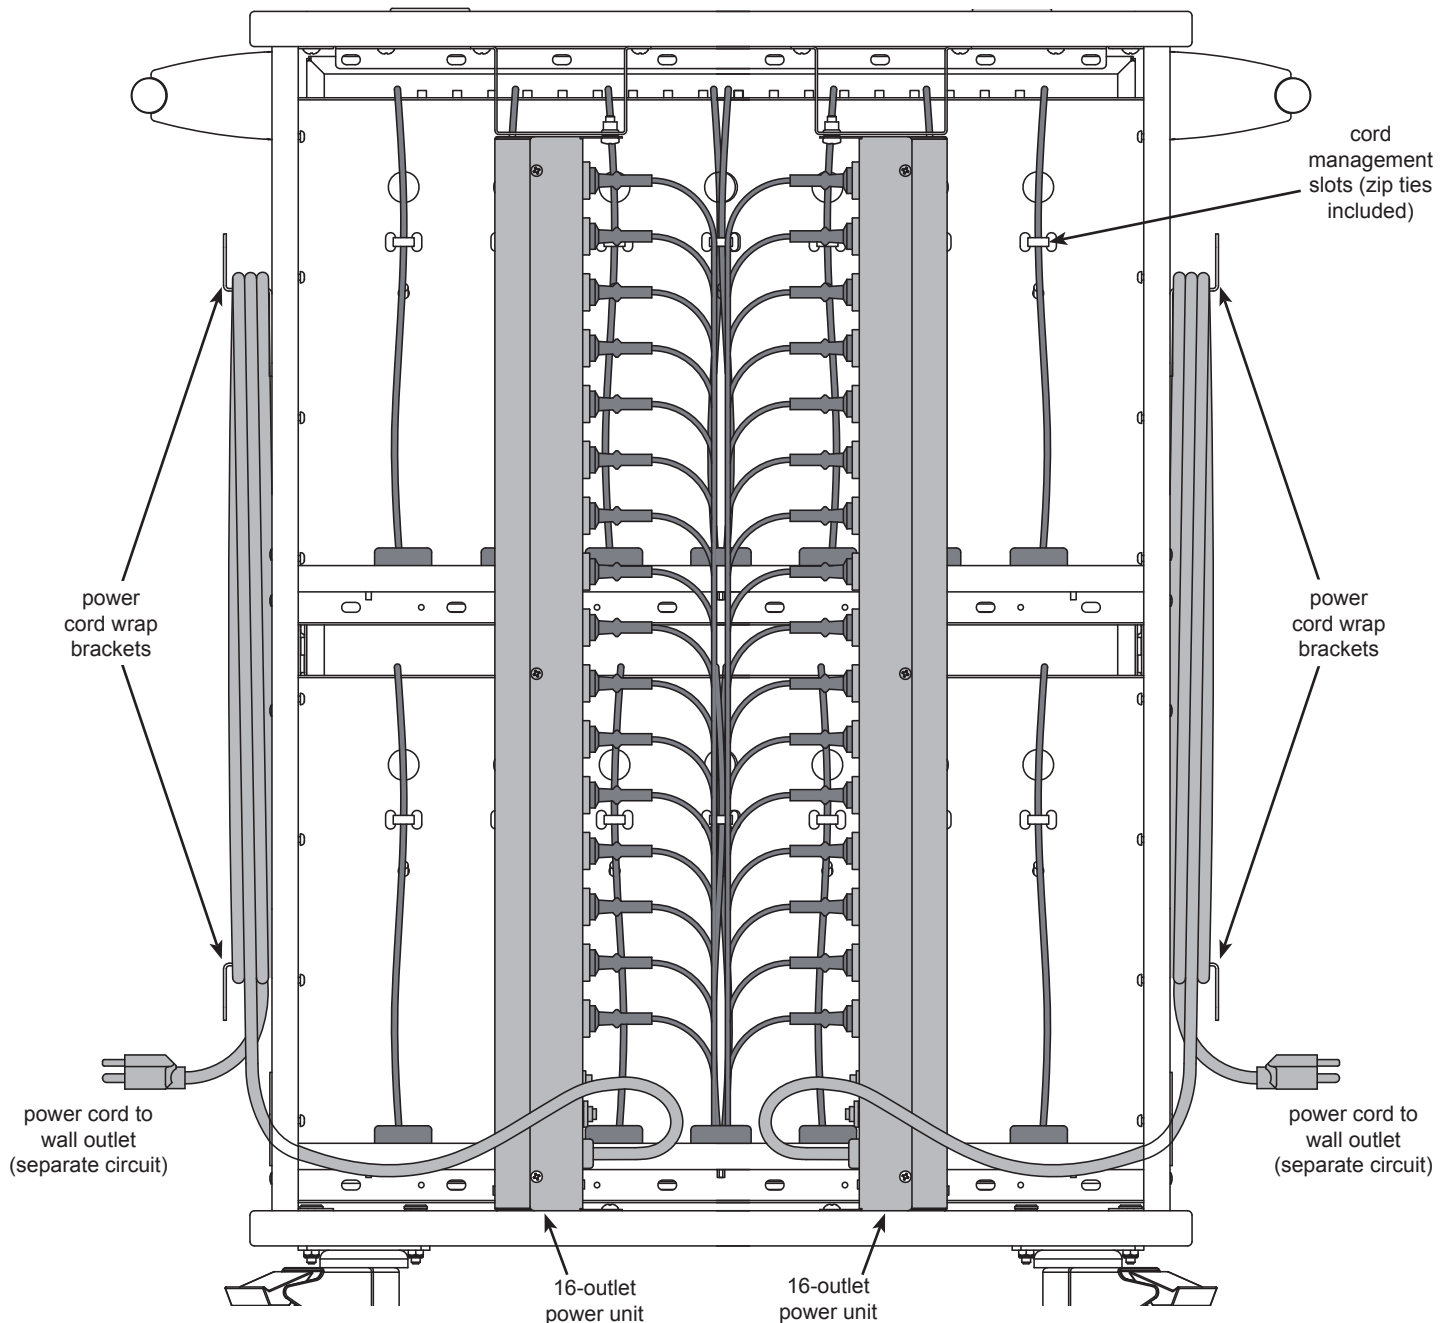

Figure 7
1. Plug each power unit into a wall outlet. A separate circuit may be necessary for each power unit. **Figure 7.**